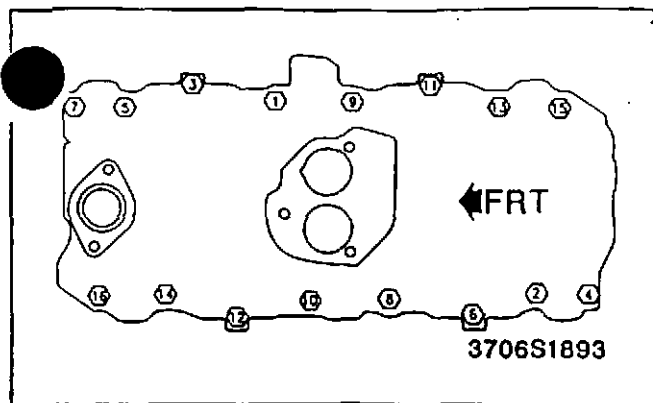

Figure 97—Intake Manifold Tightening Sequence (7.4L Engines)
- Bolts (20) to 40 N.m (30 lbs. ft.). Use the tightening sequence shown in figure 97.